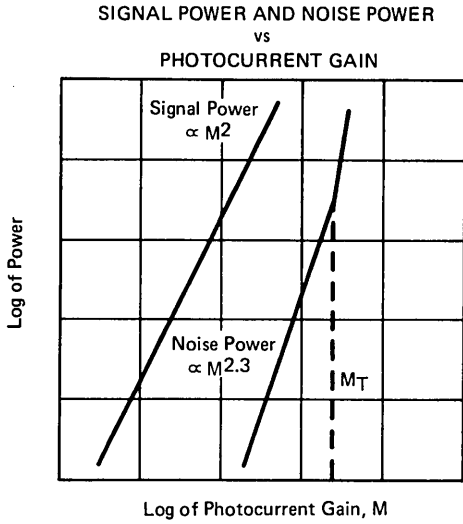

FIGURE 1
3. Gain M_T is measured at the reverse voltage at which the noise deviates from the theoretical linear characteristic. See Figure 1. Radiant flux is as required to give a photocurrent of 0.1 nA rms at $V_R = 40 V$.